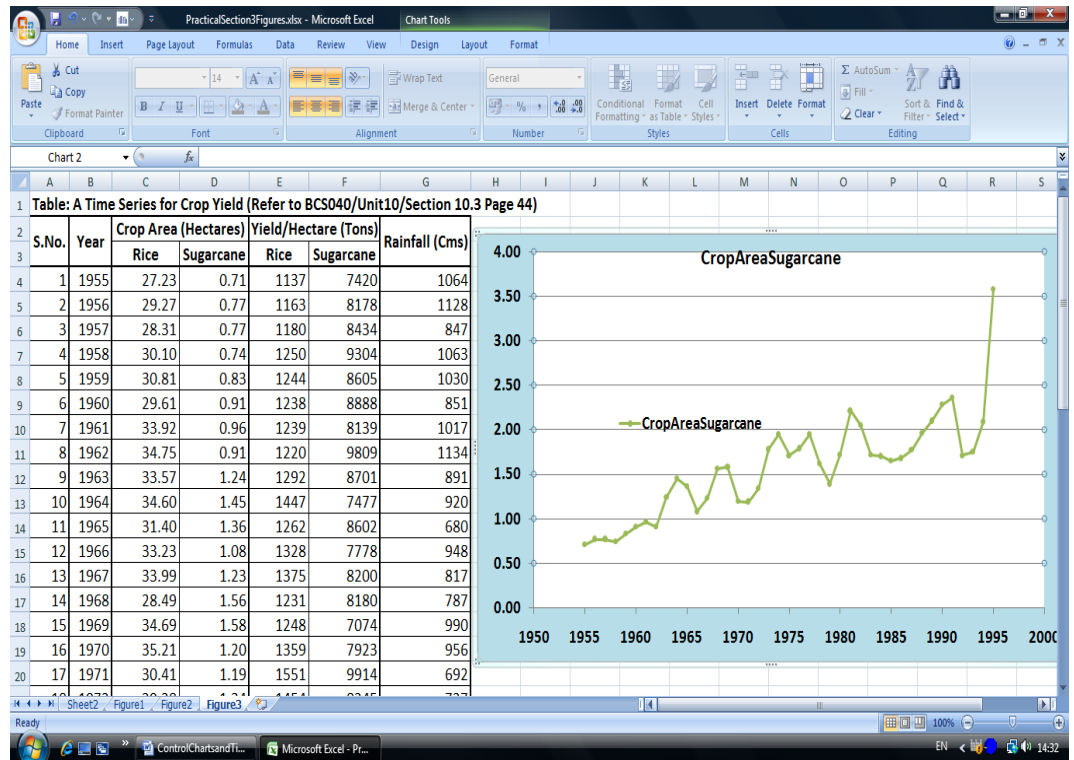

Figure 3: Cyclic variations
*Cyclic variations:* Using the data on Sugarcane Area, the cyclic variations are plotted in Figure 3 using spreadsheet package. You can observe the cyclic pattern in the plot. Did you understand the distinction between “a season” and “a cycle”, which is discussed in section 10.3.3/page 48/Unit 10? Discuss the key points from there with other students or counselors.